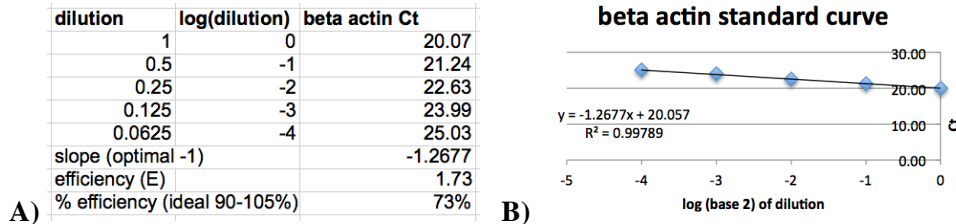

Figure 1: Example standard curve data table (A) and graph (B)
1. Plot the $\log_2(\text{dilution factor})$ against Ct value, where d = the dilution factor for the dilution series (ex. 10 for the 1:10 series or 2 for the 1:2 series). Calculate the linear regression line ($y=mx+b$) and its coefficient of determination (R^2). For example, see Figure 1